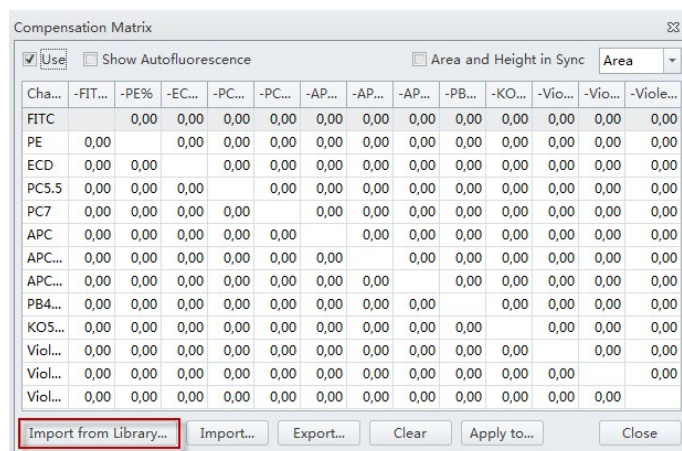

Figure 26. Compensation Matrix window highlighting the Import from Library button.
- d. Choose “Import from Library...” (Figure 26).